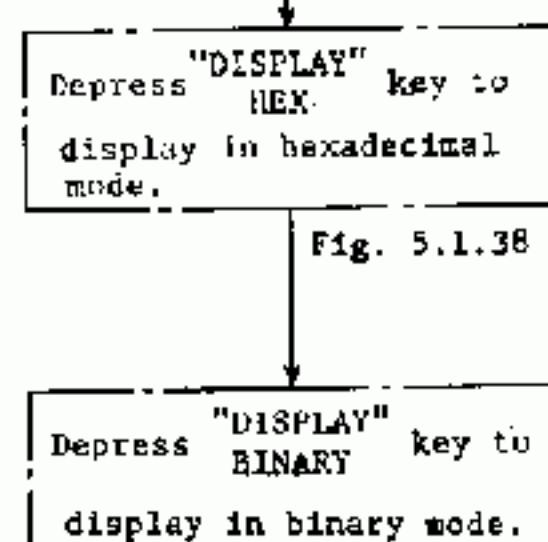

Fig. 5.1.39
2. In monitor mode, "ENABLE" and "DISABLE" do not appear. Also, "NEXT" (see Fig. 5.1.39) and small cursor do not appear.